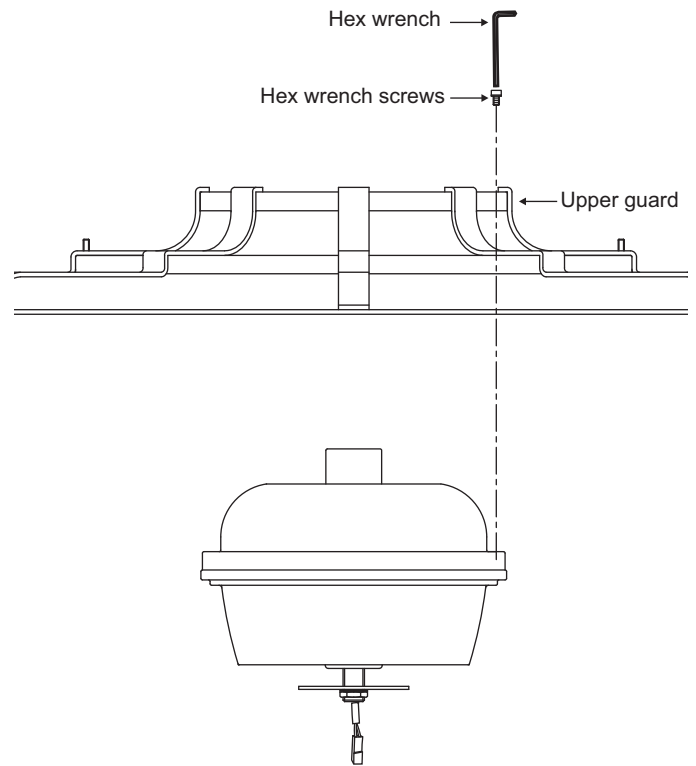

Figure 5
Step 1 Align the holes from the upper guard to the holes from the motor assembly, and secure the upper guard in place with hex wrench screw by using the hex wrench provided. (Fig. 5)